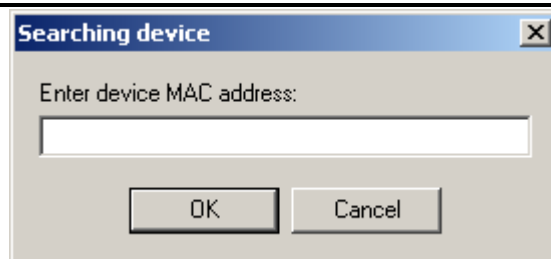

Fig. 5 – entering the requested MAC address
- 2) Click on "Search according to MAC". In the dialog box which appears, insert the MAC address written on the label on the thermometer (cf. the Fig. 5).
When you click on this button, a dialog box for setting the relevant thermometer's MAC address (cf. the Fig. 5) is displayed first (cf. the Figure).²